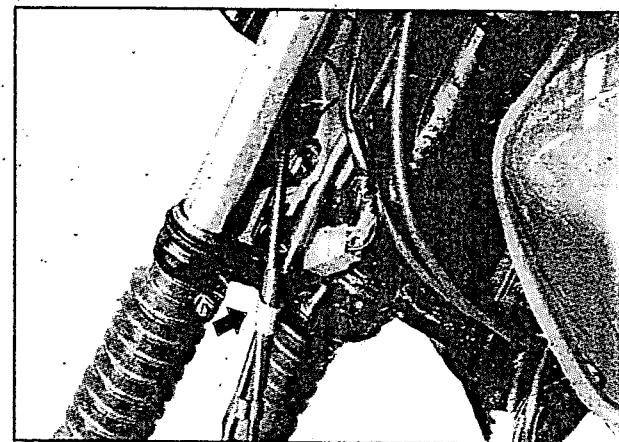

Fig 6.42
- Remove the cable bracket (fig 6.42)